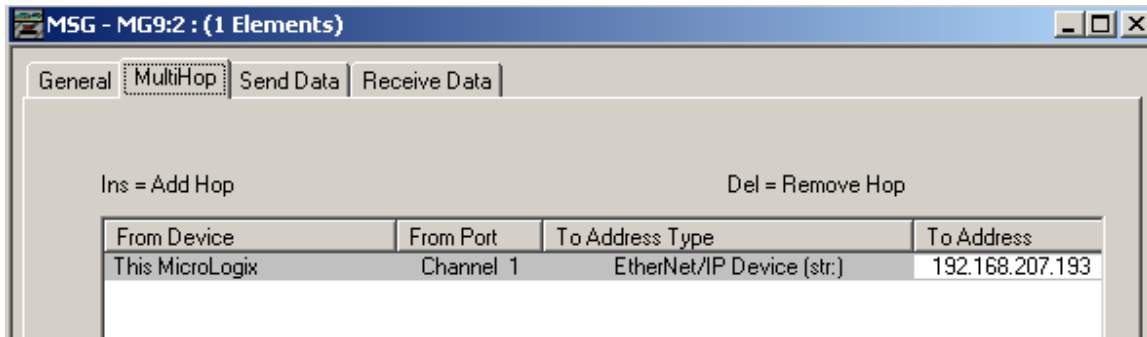

Figure 15: Configuring MultiHop for send instruction
- i. Click on the MultiHop tab and enter the IP address of the MPiec controller to which data will be sent if data is being written or from where data will be received if it is a receive instruction. (Figure 15)